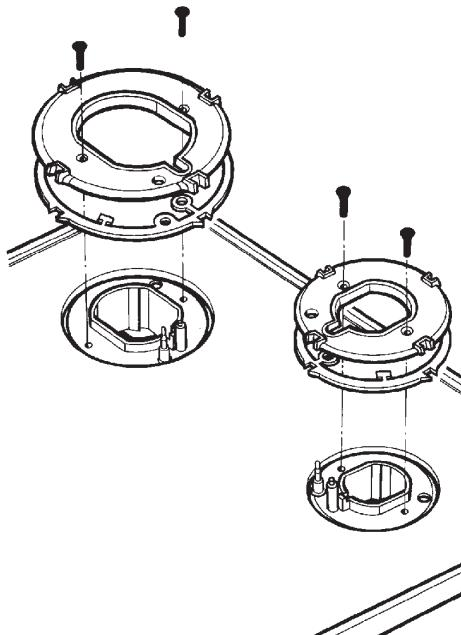

Fig. 15
22. Attach two fixing discs to the hob using 4 (M3) fitting screws (2 for each burner). (See Fig. 15). You will notice that the burner bowls move upward toward the glass surface as the screws are tightened. To ensure that the burner bowls are lifted evenly, it is recommended that the screws be tightened in turn, rotating not more than two turns as a time until tight.